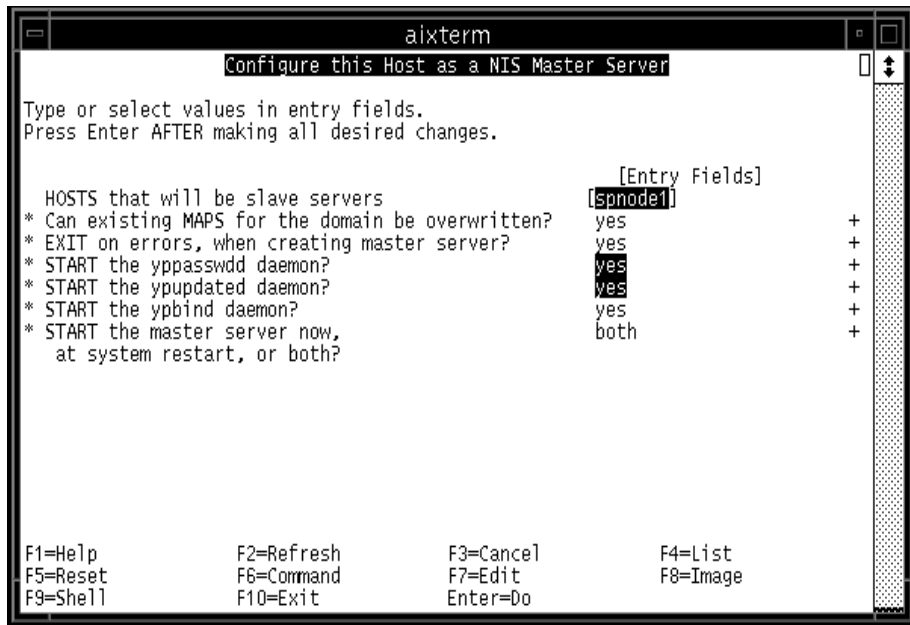

Figure 45. SMIT panel for configuring a master server
- On the machine that is to be the NIS master (for example, the control workstation), select **Configure/Modify NIS** and then **Configure this Host as a NIS Master Server**. Figure 45 on page 83 shows the SMIT panel. Fill in the fields as required. Be sure to start the yppasswd and ypupdated daemons. When the SMIT panel is executed, all four daemons ypbind, ypserv, yppasswd, and ypupdated are started on the master server. This SMIT panel also updates the NIS entries in the local /etc/rc.nfs file(s).